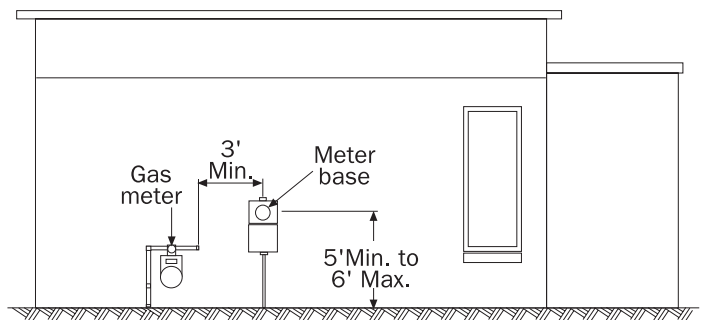

Figure D-7.
- There shall be a minimum horizontal clearance of 36 inches between the center of the electric meter and gas meters (see Figure D-7).